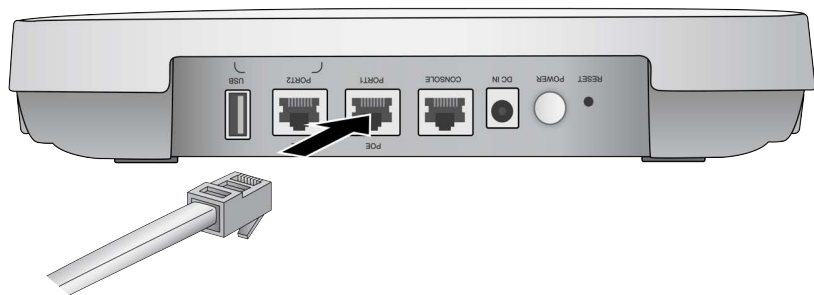

Figure 20. Connecting an Ethernet Cable to PORT1
1. To cable PORT1, connect an Ethernet cable into the port. The cable requirements are in “Cable Requirements” on page 19. Refer to Figure 20.